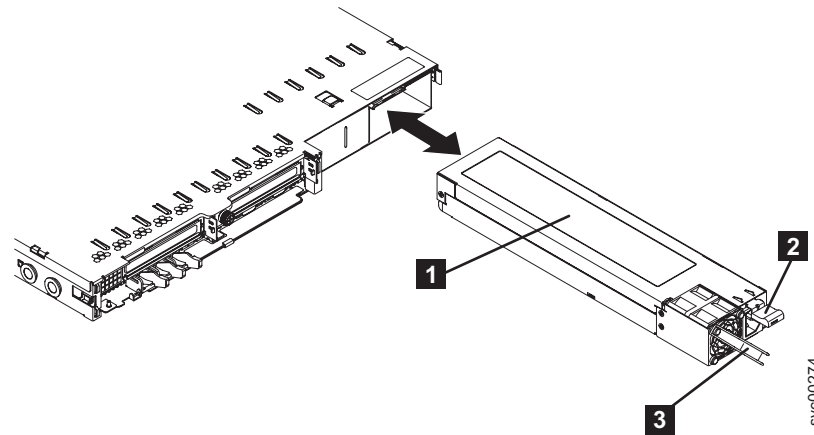

Figure 142. Removing the SAN Volume Controller 2145-8G4 power supply
3. Press and hold down the orange release tab **2**, which is shown in Figure 142, and pull the power supply out of the node.